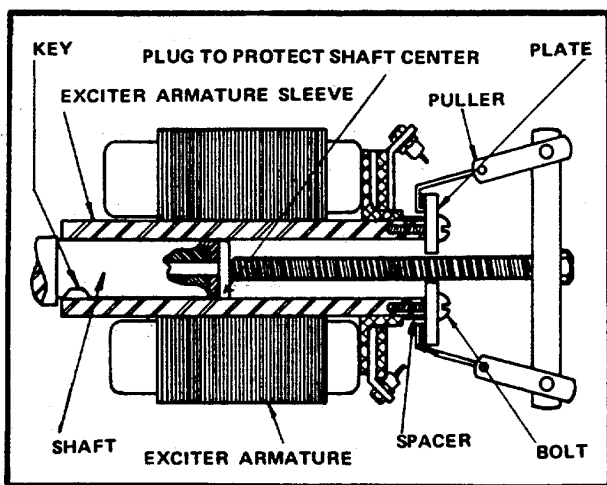

Figure 11-11. Removing Exciter Armature and Rotating Rectifier Assembly
- (3). Install a cap or plug to protect the shaft center. Using the tapped holes in the end of sleeve, bolt to the end of sleeve spacers and a metal plate. Refer to figure 11-11.
- (4) Hook a bearing puller to the metal plate and pull exciter armature and rotating rectifier assembly from the shaft.